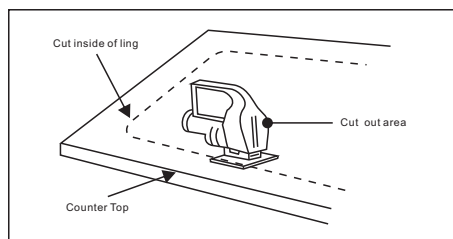

FIGURE 2
- 4.Trace the outline of the template and cut countertop according to templated outline using appropriate cutting tools. Template is for guide only. Use physical sink to ensure accurate cutout opening .(FIGURE 2)